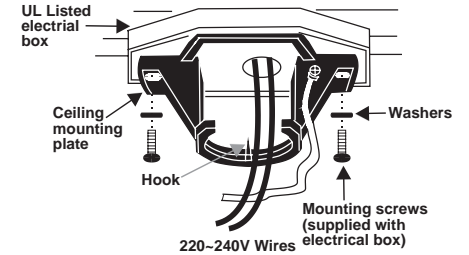

Figure 5
Step 1. Pass the 220–240 volt supply wires through the center hole in the ceiling hanger bracket as shown in Fig. 5.
2. Pass the 220~240 volt supply wires through the center hole in the ceiling hanger bracket as shown in Fig. 5.